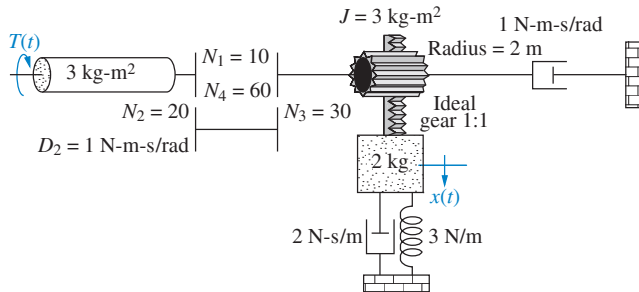

FIGURE P2.28
43. For the combined translational and rotational system shown in Figure P2.28, find the transfer function,  $G(s) = X(s)/T(s)$ . [Sections: 2.5; 2.6; 2.7]